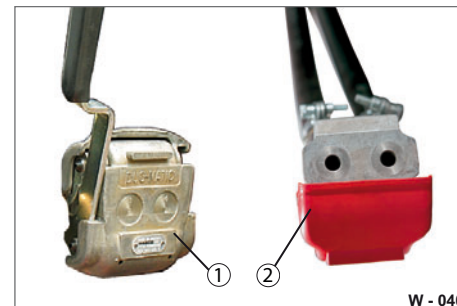

Fig. 39 Coupling head disassembled
- Clean the sealing surfaces of the coupling head (Fig. 39/2) and the coupling socket (Fig. 39/1) with a clean, dry cloth.